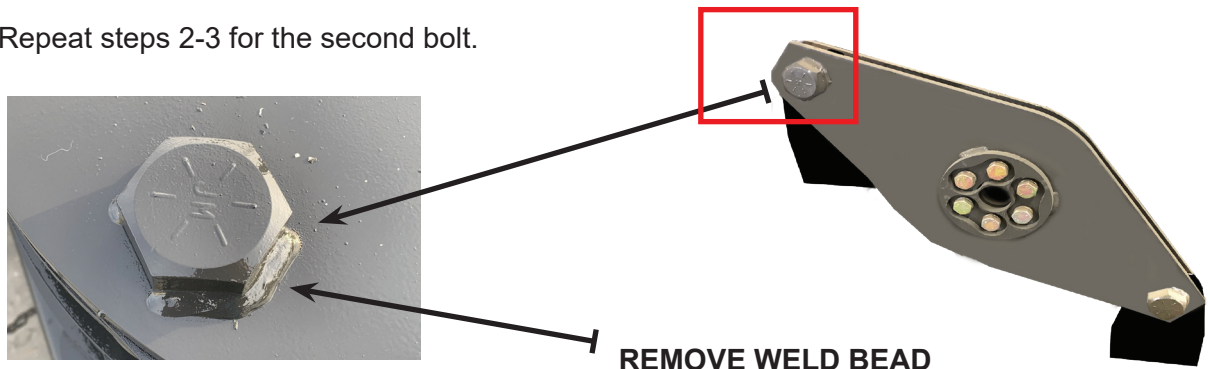

Figure A1 Blade Holder Bolt Weld Bead Removal
2. Use the cutting torch or a grinder with a cut off wheel to remove the weld bead around the bolt head. (Figure A1 below.)
5. Weld the outside of the bolt head as shown in Figure A1 on page 49.